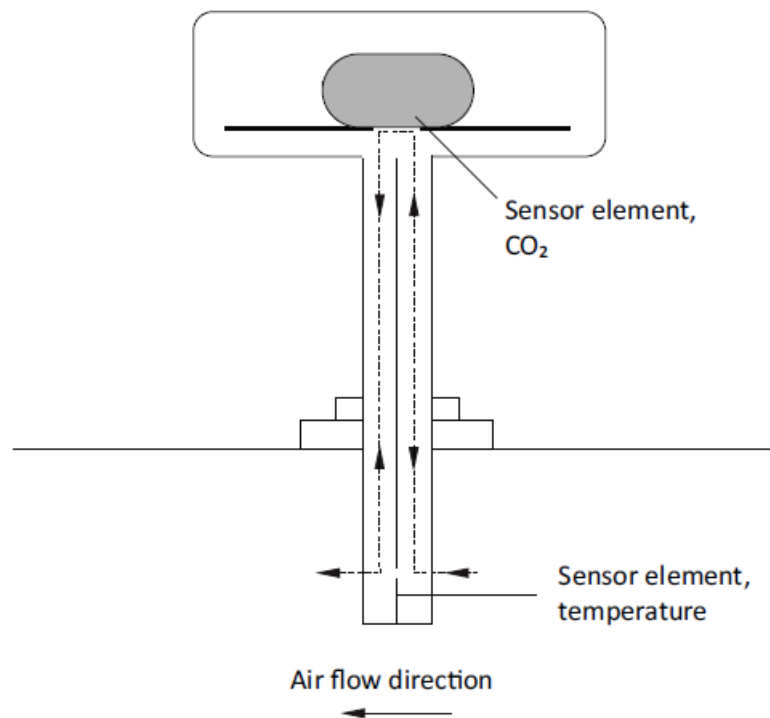

Figure 1 The airflow direction is either from right to left (as in the example) or from left to right
- The air in the ventilation duct is transported to the CO2 sensor element through one half of the probe and then back to the duct through the other half. The temperature sensor is located inside the probe. (see Figure 1)
2. Place the transmitter in the airflow direction of the ventilation duct according to the marks on the cover. The air flow direction is either from right to left (as in Figure 1) or from left to right. The hole in the duct should measure 13 mm in diameter.